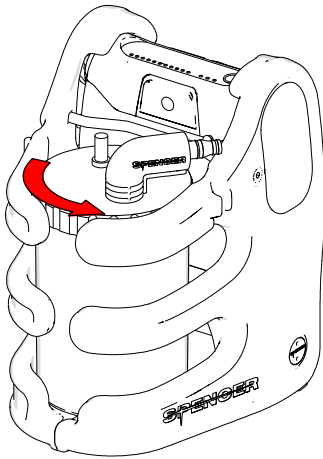

Fig. 9
1. Connect to the canister the filter group (n°5 in paragraph 3.2), put the canister in his support (fig.9).